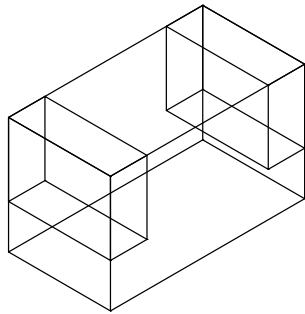

Figure 26-49 Boxes moved inside the bigger box using midpoints
11. By using the **Copy** tool, and the **Vertex** option of the **3D Object Snap**, copy the new box to the other side of the box, refer to Figure 26-49.